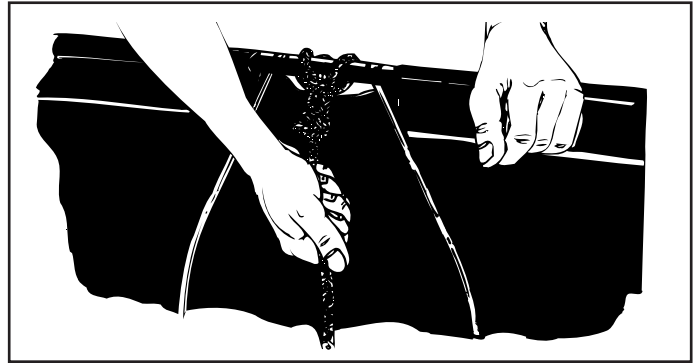

FIGURE 20
16. Secure the rope to the top center of the hopper bag frame as shown in figure 20.